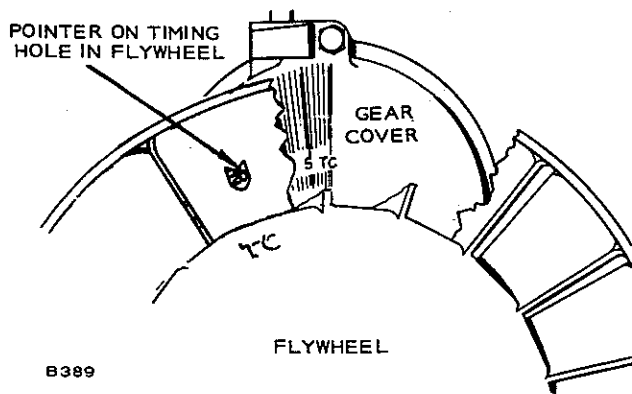

FIGURE 10-36. NHC FLYWHEEL TIMING HOLE
2. Start engine and check timing. Timing pointer on flywheel should line up with 20° mark on cover. The timing hole through the flywheel and the timing marks on the timing gear cover can be seen by looking through the flywheel blower screen. See Figure 10-36.